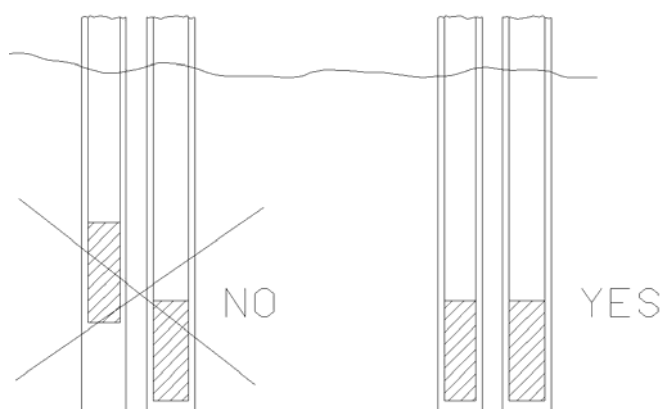

Fig.2
- In the case of calibration of two or more probes, it's advisable to immerse the probes at the same dept (reference to fig. 2)